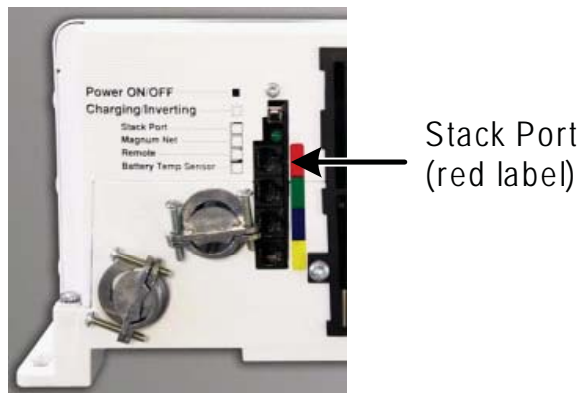

Figure 6, Stack Port Location (on MS4024)
1. Locate the Stack Port on each inverter (see Figure 6).